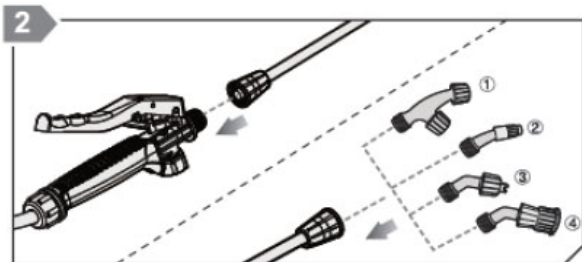

Fig. 17: Mounting the spray gun
Step 2: Install the gun rod on the gun handle (fig. 17).
Step 3: Install one of the four available nozzles on the gun rod (fig. 17).